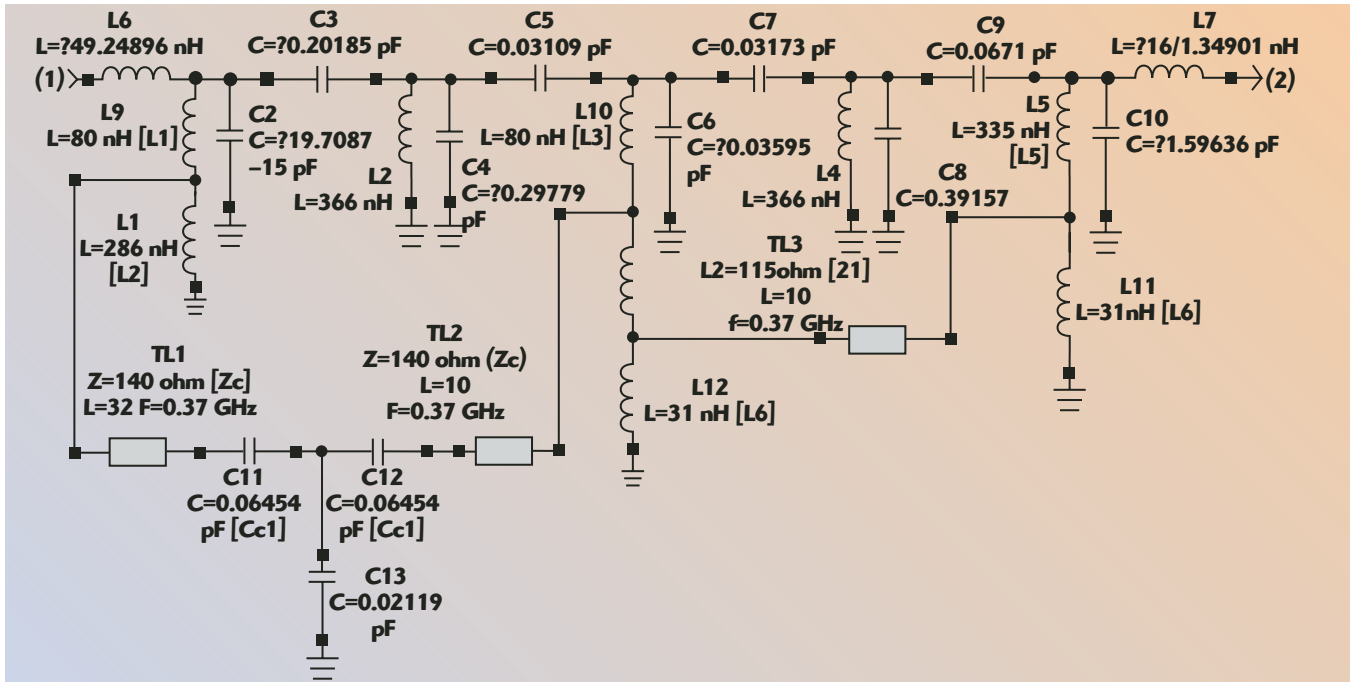

Fig. 10 Circuit model with wire cross-coupling.
**Figures 10** and **11** illustrate the circuit model and theoretical response for the inductive wire coupling approach. Shown in **Figures 12**